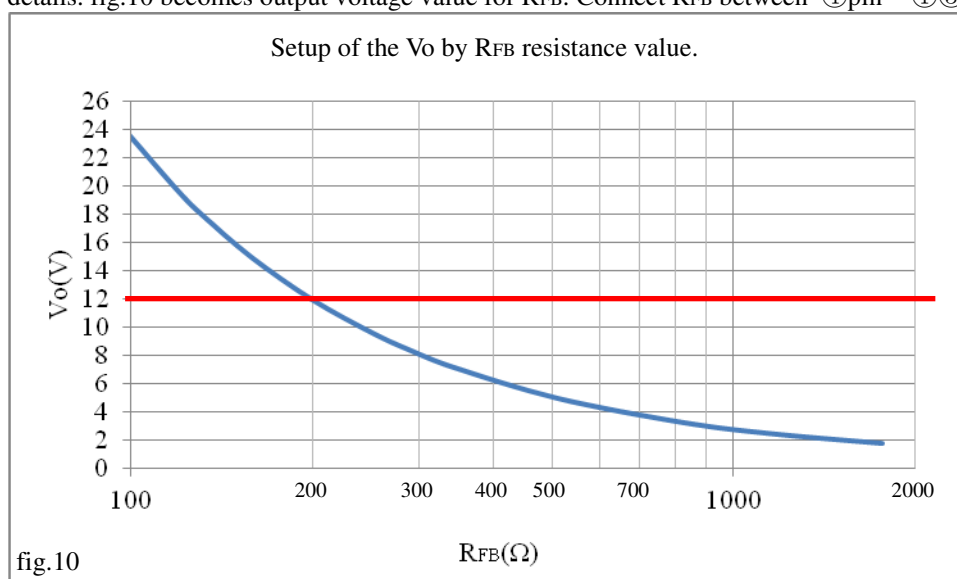

fig.10
As for details, please refer to the fig.10.
•If output impedance of the VIN power supply is ideally endless and it is near-zero, the ripple-current doesn't flow to Cin. To make stabilize movement of MPM01/04, You must connect the input capacitor "Cin" between ②pin to ①③pin in the shortest path. As for Cin, The withstand-voltage and allowable ripple-current ask for the selection which has a margin.
•The ripple-current that is switching frequency flows to output-capacitor "Co".Refer to an application notebook for the way of calculating the output-ripple-current. As for Co, Use the capacitor which has low-impedance character for the switch mode power-supply. To reduce the output-ripple-noise, You must connect the output capacitor "Co" between ⑤⑥⑦pin - ①③pin at shortest. As well as the case of Cin , The withstand-voltage and allowable ripple-current ask for the selection which has a margin.
**(3) Output voltage setup resistor RFB**
•With MPM01/04, An output voltage  $V_o$  can be set up by adjusting  $R_{FB}$ . Refer to an application notebook for the details. fig.10 becomes output voltage value for  $R_{FB}$ . Connect  $R_{FB}$  between ④pin - ①③pin at shortest.